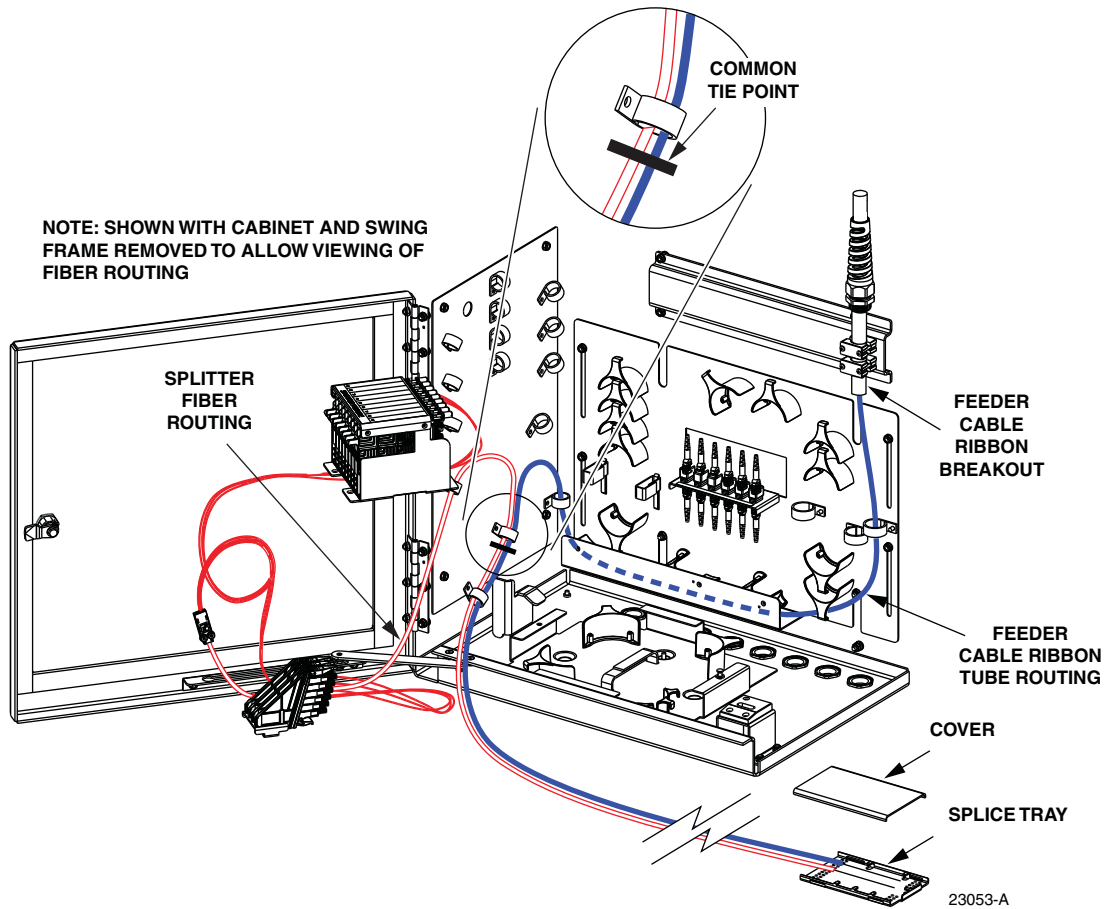

Figure 18. Feeder Fiber Routing to Splice Tray - Ribbon Cable
- Beginning at the feeder cable ribbon breakout point shown in Figure 18, route the protective tube or ribbon subunit to the intersect point with the splitter fibers.